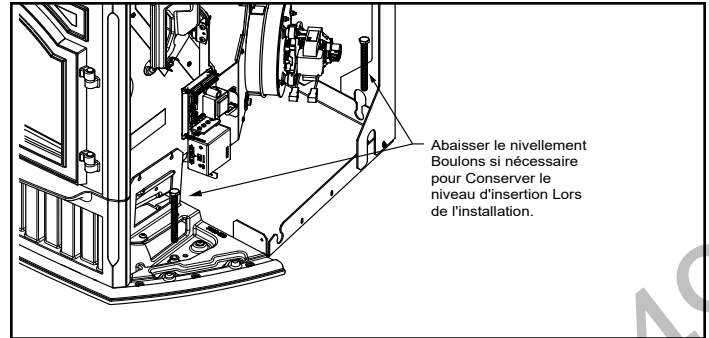

Figure 19.2 - OAK Exploded View
5. Attach flex pipe (not included) to outside termination cap with second wire tie (**Figure 19.2**).